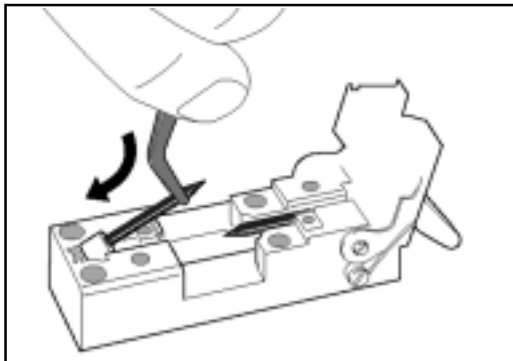

Fig. 95a - Inserting the new electrode at the correct angle
3. Mount the new electrodes correctly in their holders (figs. 95a and 95b).